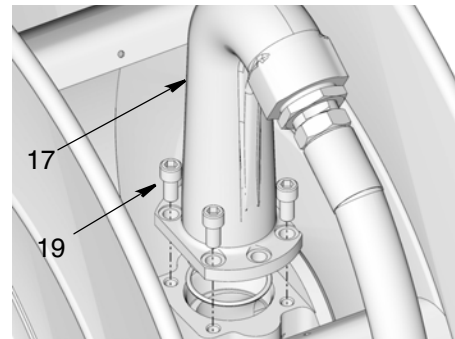

FIG. 79
- Reinstall outlet (17) to spool. Replace and tighten bolts (19) securely. Torque bolts to 24 to 30 ft. pounds (32.54 to 40.67 N.m) (FIG. 79).